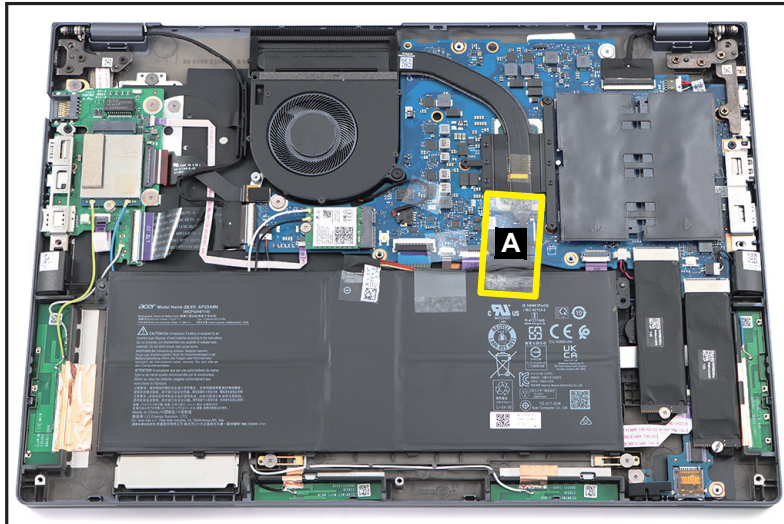

Figure 1-7. Battery Pack Removal
1. Detach the mylar (A) as shown in Figure 1-7.